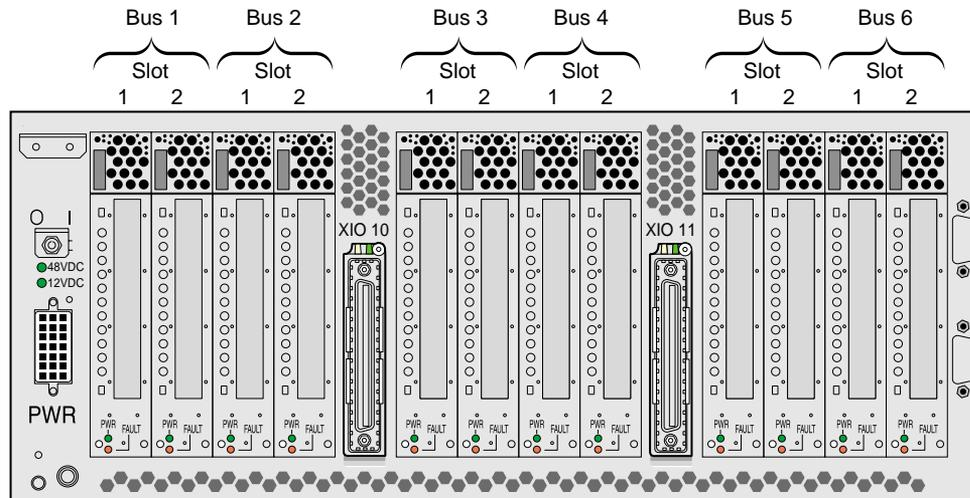

Figure 5-5 Numbering of PX-brick PCI-X Slots
- **PCI/PCI-X slots.** These slots support PCI or PCI-X cards. The card slots are numbered bus 1 through bus 6. Each bus has two slots, labeled 1 and 2, as shown in Figure 5-5.
The PCI and PCI-X card slots are numbered bus 1 through bus 6. Each bus has two slots, labeled 1 and 2, as shown in Figure 5-5. Separate buses enable the PX-brick to run cards of different frequencies at the same time. As a result, the same PX-brick can run 133-MHz, 100-MHz, 66-MHz, and 33-MHz cards at the same time.